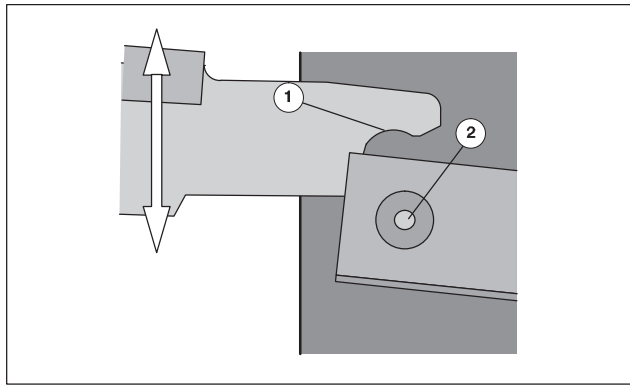

Fig. 52 Docking rail
3. Slide the slide-in carriage onto the press so that the both ends of the docking rail (Fig. 52/1) are opposite the guide pins in the press (Fig. 52/2).
6. Lower the upper portion of the slide-in carriage until the recesses at the guide rails of the slide-in carriage (Fig. 52/1) lie on the bolts in the press (Fig. 52/2).